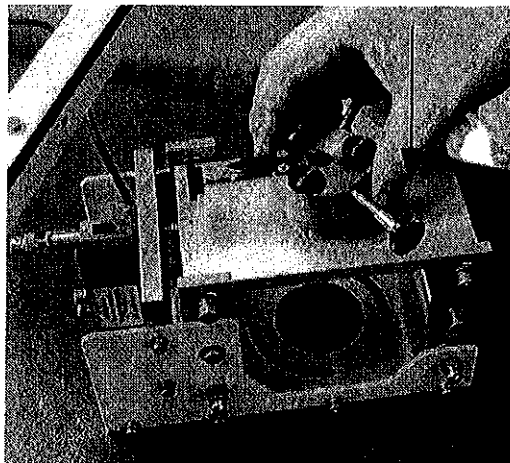

Figure 4 Fit the Model Clamp to the Balance Assembly
4. Fit the model clamp to the Balance Assembly (the model clamp is supplied with the AF100 tunnel) (see Figure 4).